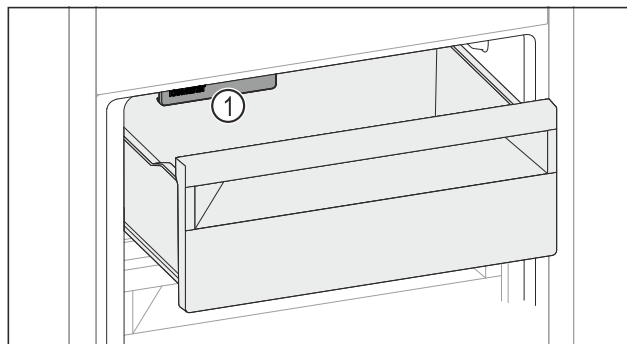

Fig. 113
- Watch out for the IceMaker *Fig. 113 (1)*.